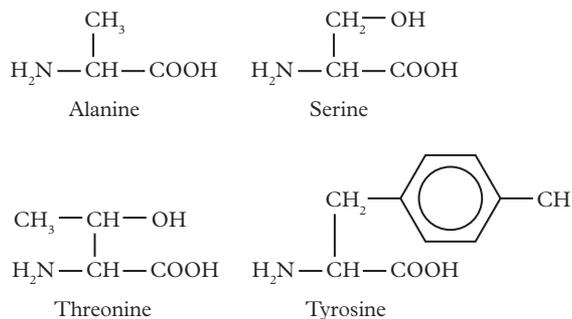

FIGURE 8 Amino acids analysed in a TLC analysis
- 26 Using a non-polar stationary phase, a scientist performs a TLC analysis on amino acids labelled with fluorescent dyes. The scientist believes that the amino acids present in the sample are those shown in Figure 8.